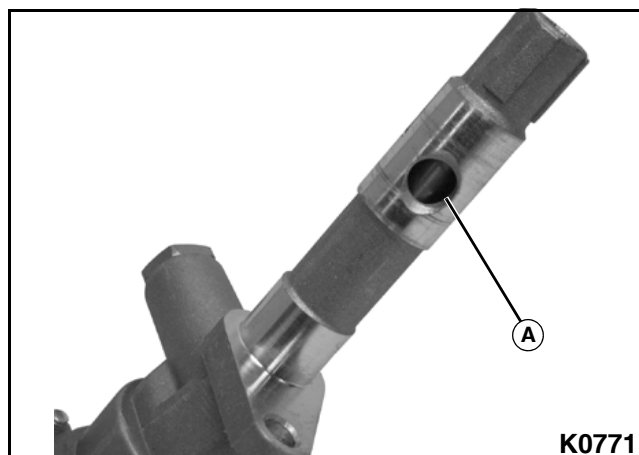

Figure 3-190
1. Using a screwdriver, immerse the oil strainer in oil and turn the oil pump shaft clockwise. Oil should come out of the oil outlet hole (A). **See Figure 3-190.**